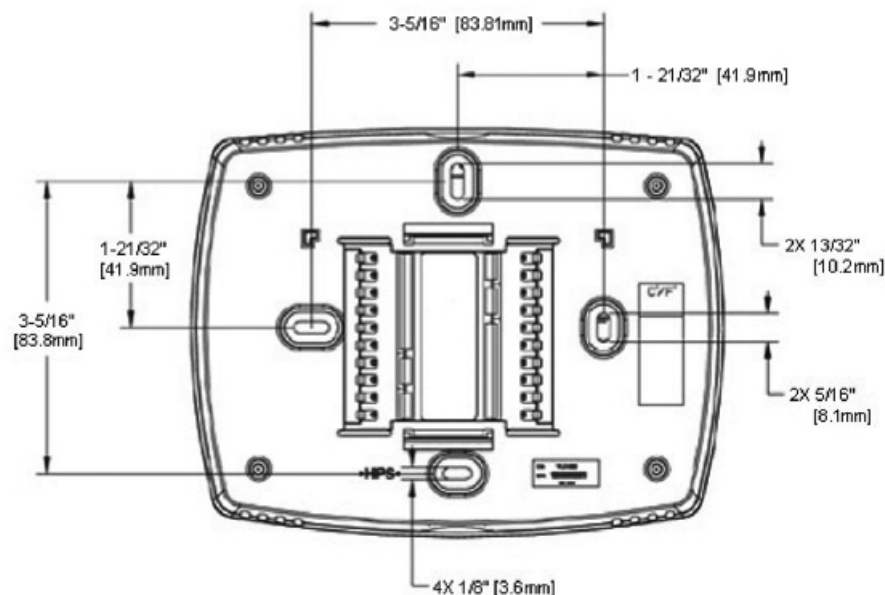

Fig. 3. Wallplate dimensions.
2. Use a pencil to mark the mounting holes (see Fig. 3).